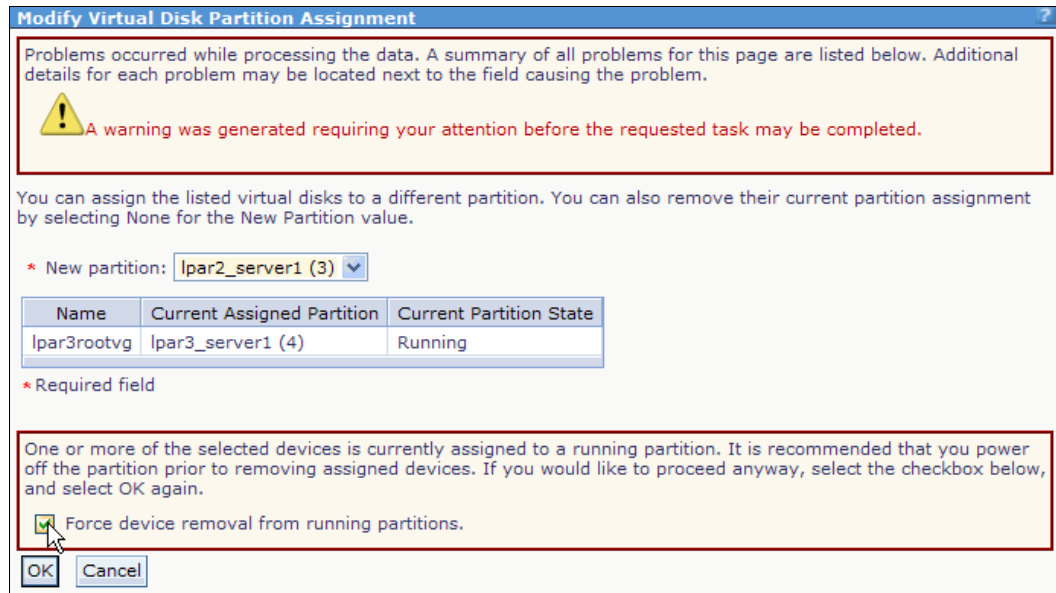

Figure 4-17 Virtual disk assignment warning
5. If the current assigned partition is in running state, a warning is issued, as depicted in Figure 4-17. Select **Force device removal from running partitions**. Ensure that the virtual disk is no longer being used by the current partition. Click OK to change the assignment of the virtual disk.